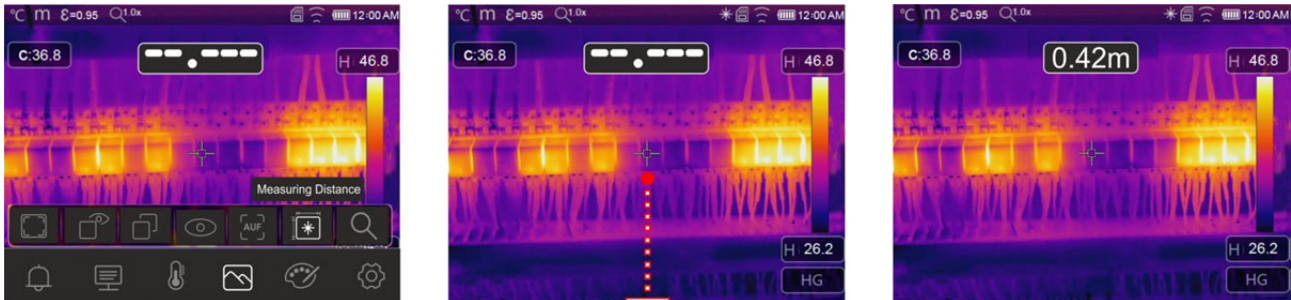

Fig. 37: Function for measuring distance with laser pointer
4. Touch the icon “” to activate the measurement of the distance between the instrument and the framed target. The screen in Fig. 37 – left side appears on the display.
5. Press key “”. The laser pointer is activated on the instrument, the symbol indicating the presence of the laser (see Fig. 6 – part 6) appears at the top of the display, and the indication that measurement has started is also shown on the display (see Fig. 37 – middle)
6. Press key “” again to perform measurement. The result is shown on the top of the display in the middle (see Fig. 37 – right side).